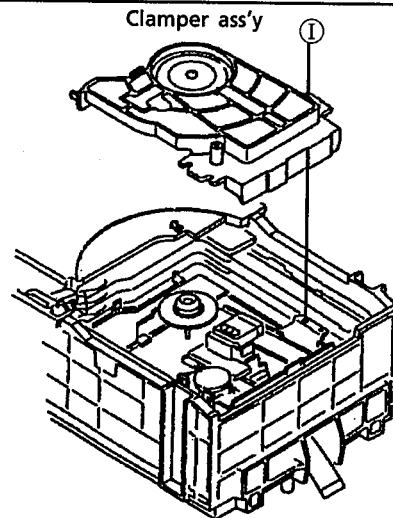

Fig.7
5. Remove a screw ① securing center of the clamper ass'y. (See Fig. 7)